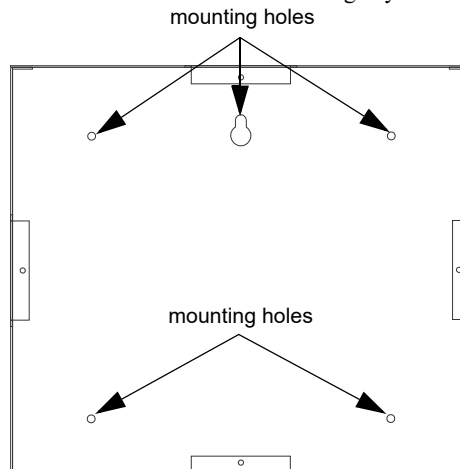

Figure 4.24 RA-2000 Backbox Mounting
2. Mark and pre-drill hole in the wall for the center top keyhole mounting bolt. Refer to Figure 4.24 for mounting hole locations.